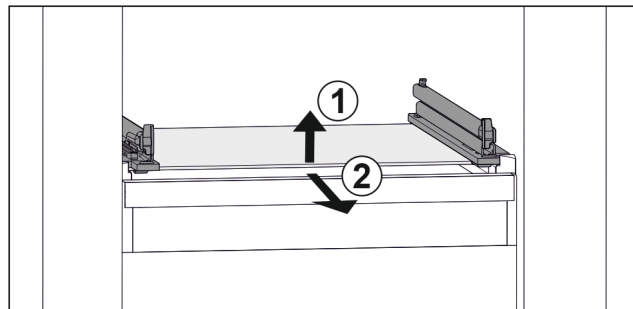

Fig. 123 Example illustration of glass shelf
- ▶ Lift glass shelf at the front. Fig. 123 (1)
- ▶ Take out glass shelf to the front. Fig. 123 (2)